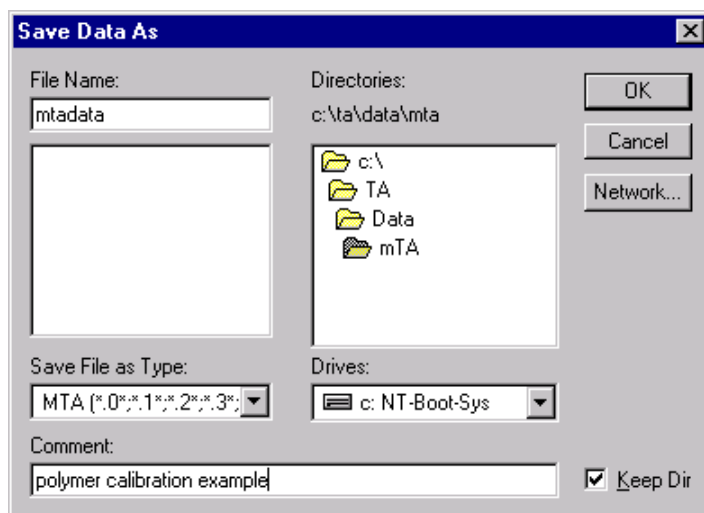

Figure 4.3
- d. Save your data by clicking on the **Save** button on the tool bar. The **Save Data As** window, shown in Figure 4.3, is displayed.